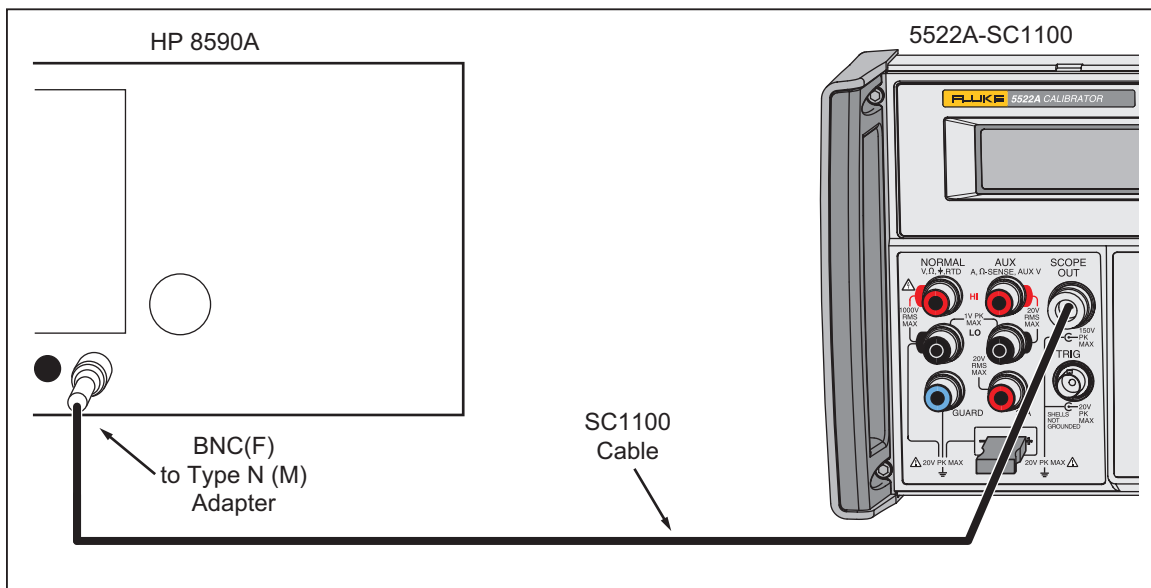

Figure 7-10. Leveled Sine Wave Harmonics Verification Setup
1. Connect the equipment as shown in Figure 7-10.